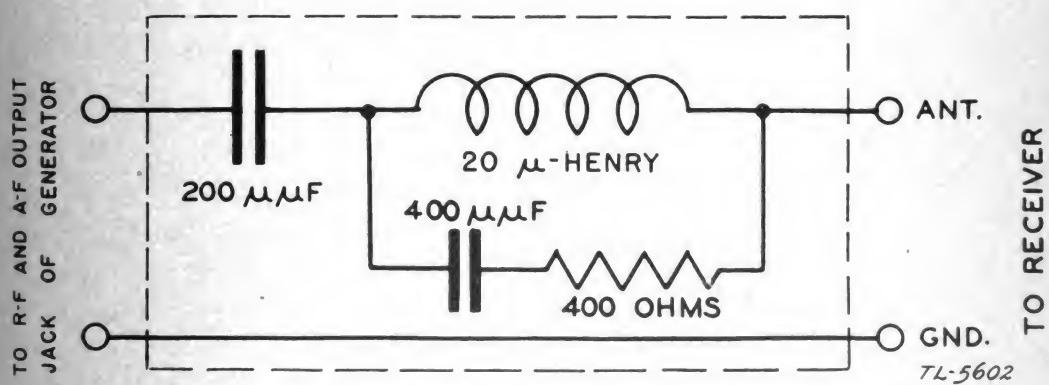

FIGURE 2.—I. R. E. standard dummy antenna—schematic diagram.
3. Preparation for use.—In alining the r. f. circuits of a receiver, some form of dummy antenna must be used to prevent undue reaction between the low output impedance of the signal generator and the input circuits of the receiver. Unless other instructions are contained in the maintenance instructions for the receiver being alined, the I. R. E. dummy antenna as shown in figure 2 may be used. This antenna may be built up by using 45 turns of No. 34 DSC wire, close-wound on a $\frac{1}{2}$ -inch form. This should give an inductance of 20μ h. One capacitor of 200μ f, one capacitor of 400μ f, and a 400-ohm noninductive resistor will also be required. The dummy antenna should be connected between the signal generator and the receiver as shown in figure 2.